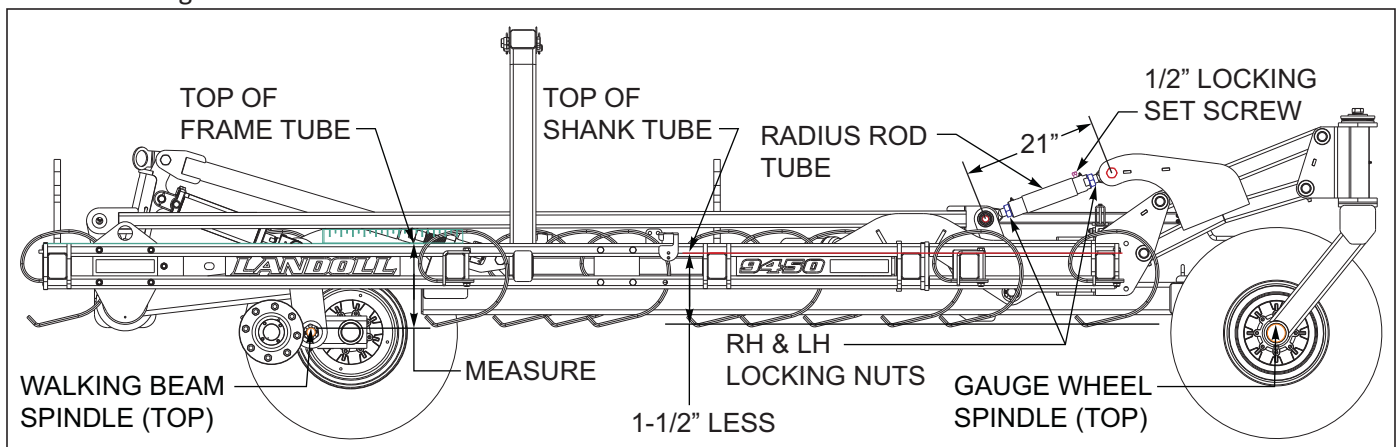

Figure 4-7: Gauge Wheel Adjustment
1. The front gauge wheels of the floating hitch cultivator raise and lower with center and wing lift wheels keeping the frames level during operation **See Figure 4-7**. The gauge wheels will caster while making turns with the cultivator.
Initially the front radius rods are set to 21" on center before final adjustment See Figure 4-7.